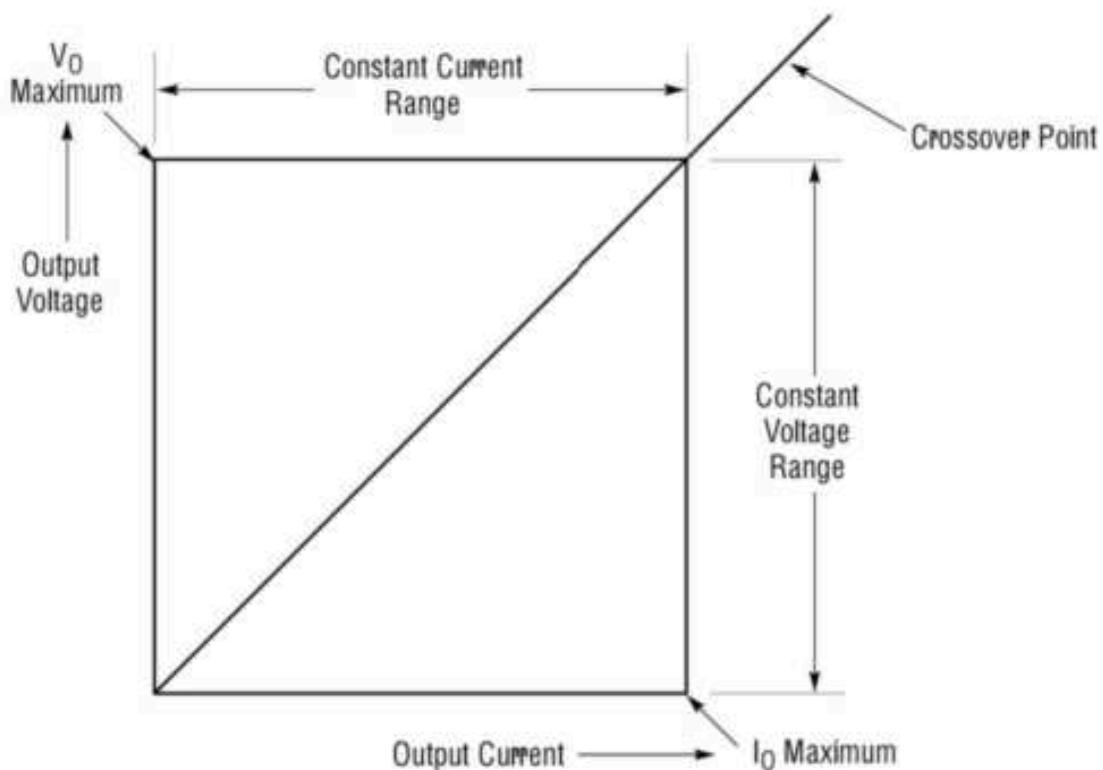

Figure 3: Constant Voltage/Constant Current Crossover
11. C.C. Indicator. If this is lighted, the left variable power supply is producing a constant current. See Figure 3 on page 10 for an illustration of the constant voltage/constant current cross-over point.
12. C.V. Indicator. If this is lighted, the left variable power supply is producing a constant voltage. See Figure 3 on page 10 for an illustration of the constant voltage/constant current cross-over point.
18. C.C. Indicator. If this is lighted, the power supply is producing a constant current. See Figure 3 on page 10 for an illustration of the constant voltage/constant current crossover point.
19. C.V. Indicator. If this is lighted, the power supply is producing a constant voltage. See Figure 3 on page 10 for an illustration of the constant voltage/constant current crossover point.
The PS280 or PS283 DC Power Supply features a constant voltage/constant current automatic crossover. This feature permits continuous operation in the transition from constant-voltage mode to constant-current mode as the load changes. The intersection of the constant-current and constant-voltage modes is called the crossover point. Figure 3 on page 10 shows the relationship between the load and the crossover point.